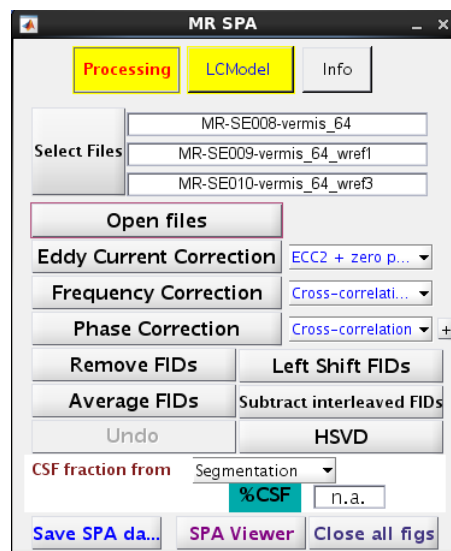

Figure 5: After opening the file(s), the appropriate buttons are enabled.
- To load the file(s), click on Open files on the MRspa main GUI. Based on the selected files, the appropriate buttons for processing are enabled (*Figure 5*). In addition, the *SPA Viewer GUI* opens up and the spectrum is displayed in Sum mode (more details in the next section).